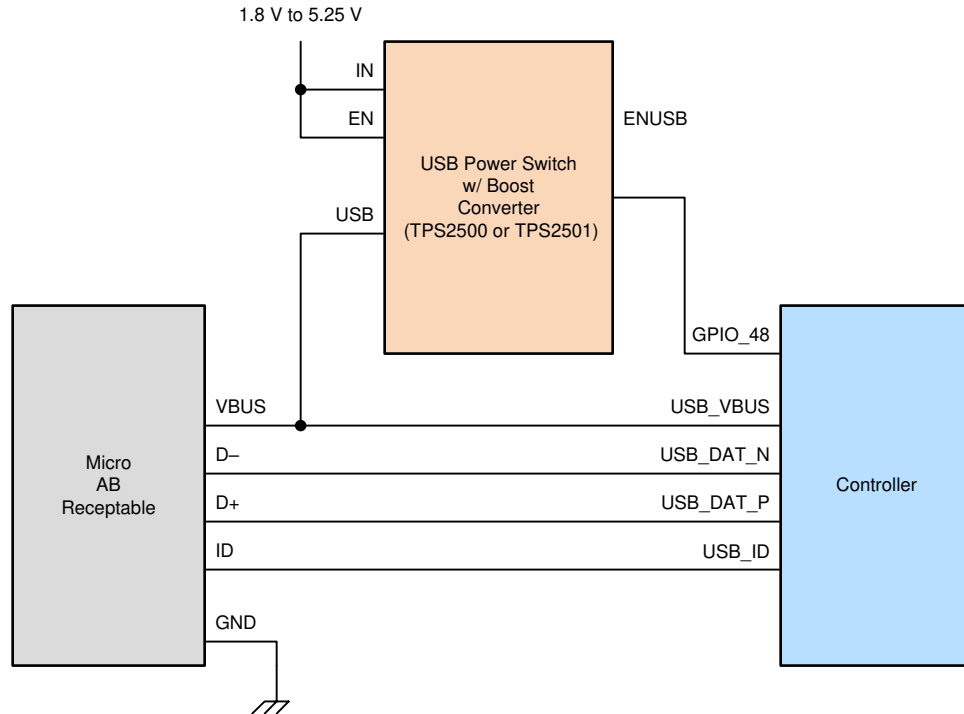

图 6-3. External USB Switch Example for DLPC6540 Controller as USB OTG Master
- (1) Referenced to VAD33_USB (I/O type 11)
- (2) When used as a master as part of USB OTG, the DLPC6540 requires an external USB switch to provide the USB 5-V power. The example shown in 图 6-3 uses a TI TPS2500/2501 device. The example figure does not describe the required ancillary components (such as resistors and capacitors). For this information, refer to the USB switch logic data sheet for the selected device. The external USB switch is not required for product configurations that support USB slave mode only.